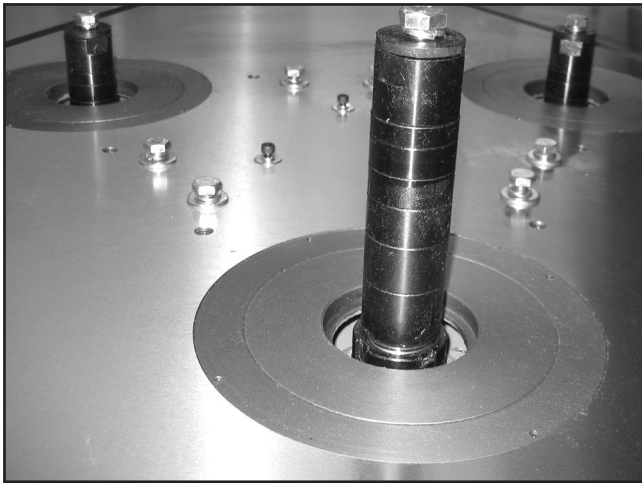

Figure 2. Cutter spindle fully elevated.
3. Raise the cutter spindle all the way up, as shown in **Figure 2**, and engage the spindle lock.